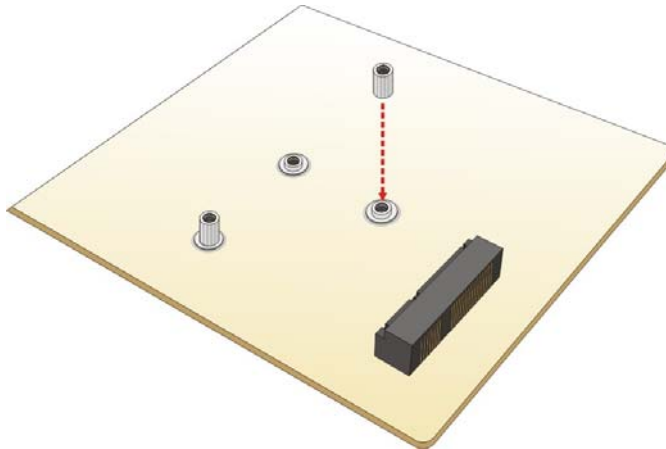

Figure 4-15: Installing the Standoff
Step 3: Install the standoff to the screw hole for the half-size PCIe Mini card. Install the previously removed standoff to the screw hole for the half-size PCIe Mini card (**Figure 4-15**).